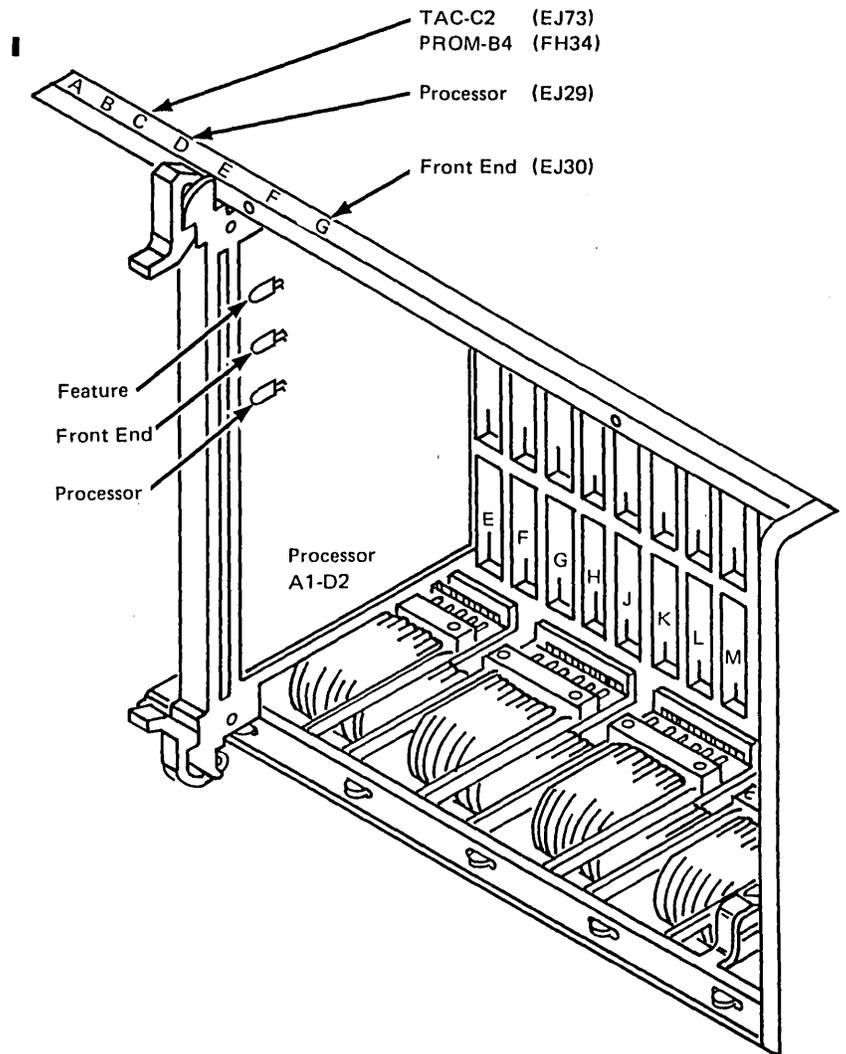
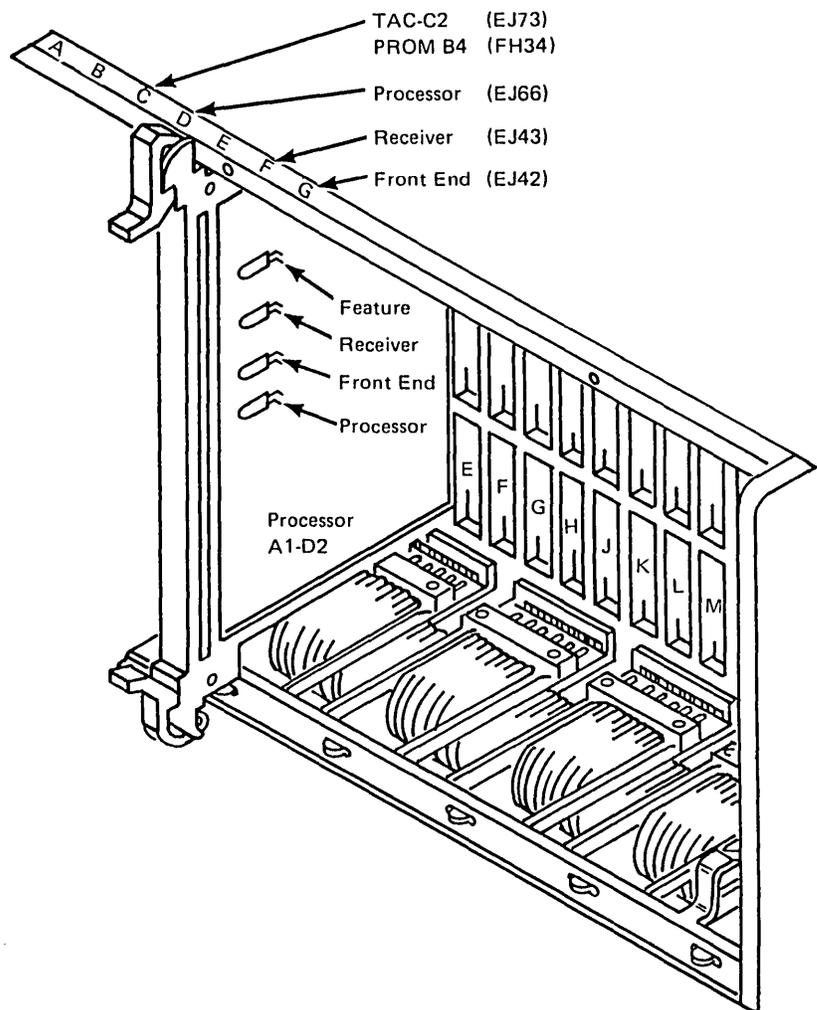
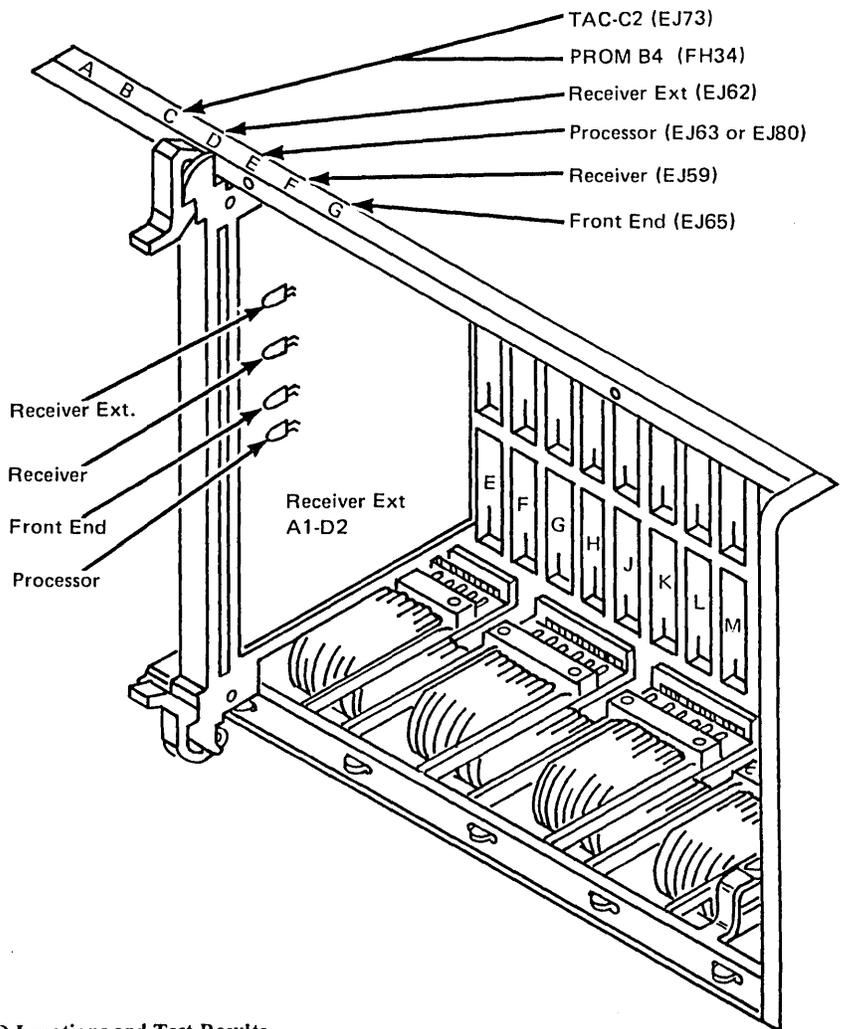

Figure 5-12. 2400-bps Integrated Modem Card LED Indicator and Test Results
Figure 5-13. 4800-bps Integrated Modem Card LED Locations and Test Results
Figure 5-14. 9600-bps Integrated Modem Card LED Locations and Test Results
A summary of the self-test and wrap-test failures and probable failing cards is given for the 2400-, 4800-, and 9600-bps Integrated Modems in Figure 5-12, 5-13, and 5-14, respectively.
3. If the failing code is 0111 013 at a display or 0111 1101 at the 3274, see Figure 5-12 for a 2400-bps modem, Figure 5-13 for a 4800-bps modem, or Figure 5-14 for a 9600-bps modem. Refer to code 013 for the replacement of cards.
6. Compare the LED failure indications with the appropriate chart located in Figure 5-12, 5-13, or 5-14. Isolate the failing card.